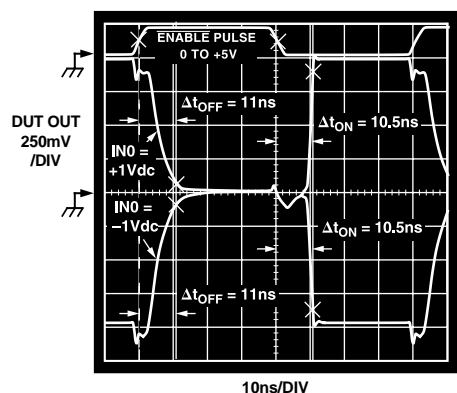

Figure 5. Enable and Disable Switching Characteristics
- 2ENABLE pin is driven with 0 V to +5 V pulse (with 3 ns edges). State of SELECT input determines which channel is activated (i.e., if SELECT = Logic 0, IN0 is selected). Set IN0 = +1 V dc, IN1 = -1 V dc, and measure transition time from 50% of ENABLE pulse (+2.5 V) to 90% of the total output voltage change. In Figure 5,  $\Delta t_{OFF}$  is the disable time,  $\Delta t_{ON}$  is the enable time.